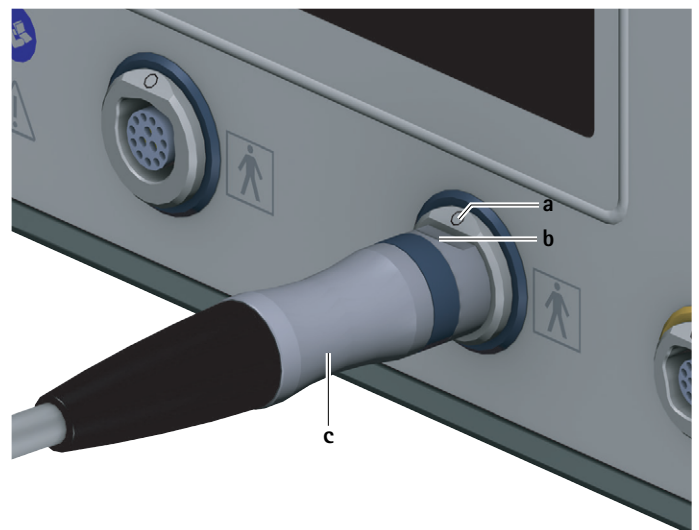

Fig. 3 Connecting the motor cable
- Position connector for control unit **c** on the motor cable so that marking **b** on the connector is aligned with marking **a** on the connection socket for applied parts **7**, see Fig. 3.
- Unplug the motor cable on the connector for control unit **c** from the connection socket for applied parts **7**, see Fig. 3.